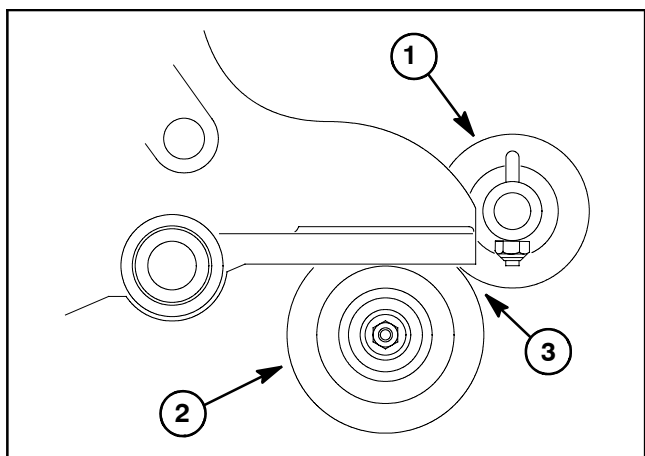

Figure 59
5. Check that roller brush is parallel to rear roller with **0.060" (1.5 mm)** clearance to light contact with roller (Fig. 59). If contact is incorrect, brush operation will be adversely affected.